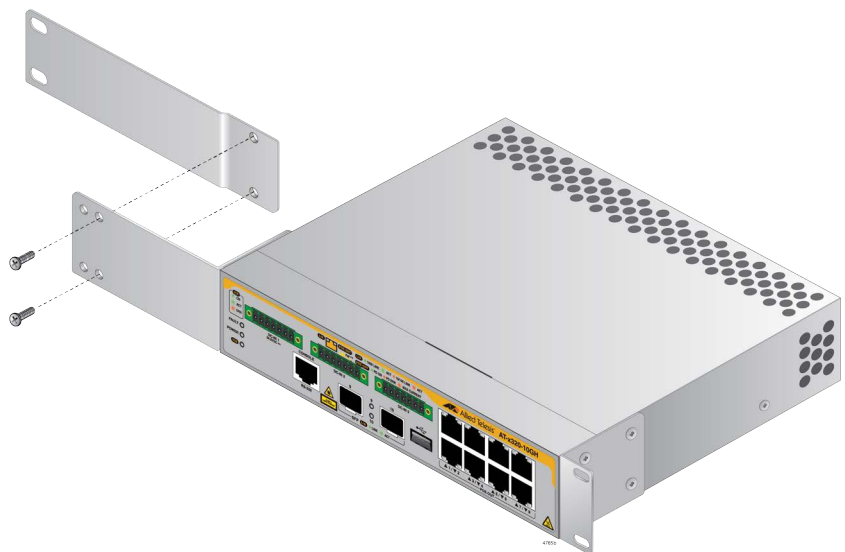

Figure 31. Attaching the Bracket Extension to the Device
3. Attach the long L bracket to the straight bracket. The illustration in Figure 31 shows the installation of the brackets such that the front panel of the device is even with the front of the equipment rack. Refer to “19-Inch Rack Mount Kit” on page 74 to for the correct set of holes to use for the device you are mounting.